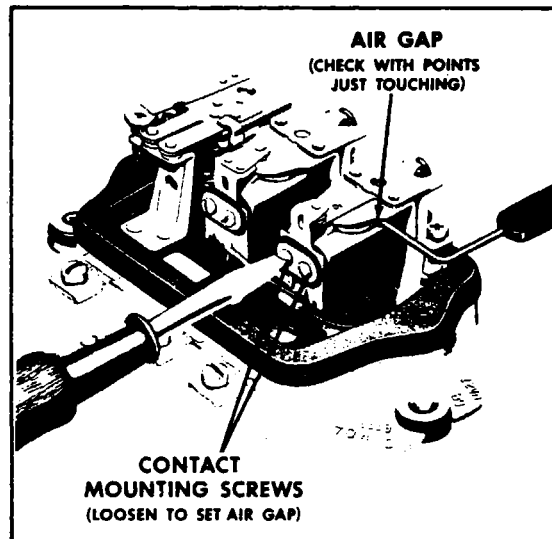

Figure 11-6. Voltage Regulator Air Gap
- a. **Air Gap:** To check air gap, push armature down until the contact points are just touching and then measure air gap. (Refer to Figure 11-6.) Adjust by loosening the contact mounting screws and raising or lowering contact bracket as required. Be sure the points are lined up and tighten screws after adjustment.